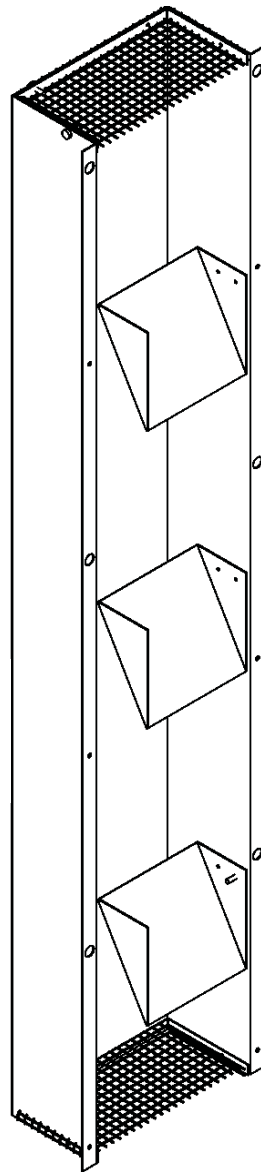

FIG. 2-13 – COMBUSTION VENT
4. See Figure 2-13 for the proper orientation of the combustion vent. The internal baffle(s) must direct the flue gases upward.